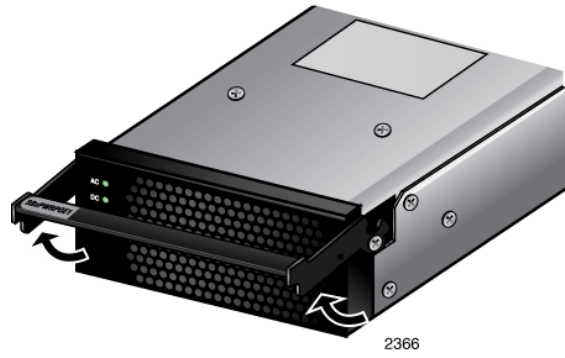

Figure 59. Unlocking the Handle on the AT-SBxPWRPOE1 Power Supply
4. Raise the locking handle on the AT-SBxPWRPOE1 Power Supply, as shown Figure 59 on page 134.